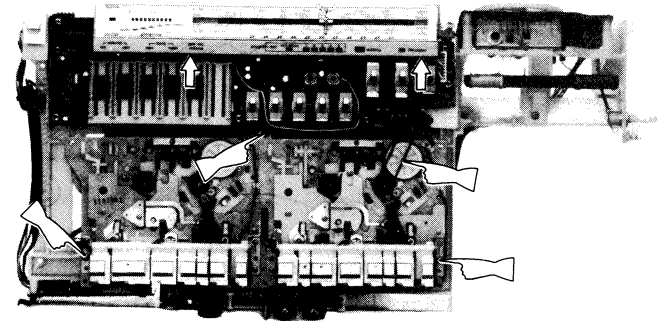

Figure 5-6
2. Detach the tape counter drive belt from the tape take-up reel disk. See Fig. 5-6.
3. Remove three screws at the mechanism block, and shift the mechanism block forwards and detach. See Fig. 5-6.